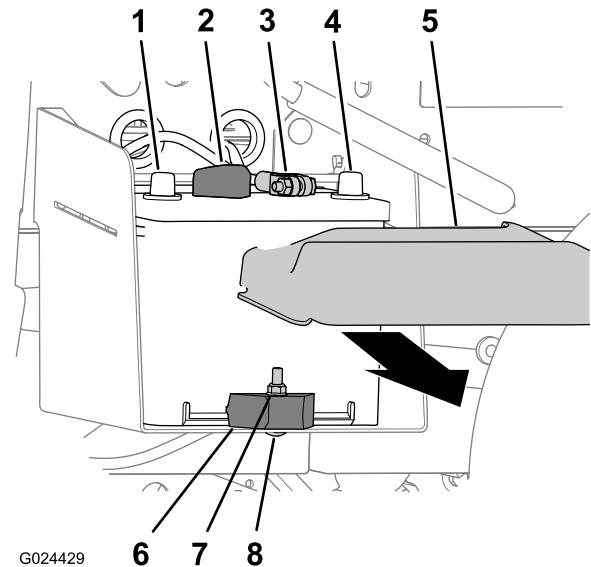

Figure 33
1. Squeeze the sides of the battery cover and remove the cover from the top of the battery (Figure 33).
2. Disconnect the negative battery cable from the terminal of the battery (Figure 33).
3. Disconnect the positive battery cable from the terminal of the battery (Figure 33).
2. Remove the locknut, carriage bolt, and battery clamp that secures the battery to the battery tray (Figure 33).
3. Remove the battery from the battery tray (Figure 33).
1. Align the battery to the battery tray of the machine (Figure 33).
- Note:** Ensure that the positive and negative posts of the battery are aligned as shown in Figure 33.
2. Secure the battery to the battery tray with the battery clamp, carriage bolt, and locknut (Figure 33).
1. Connect the positive battery cable to the terminal of the battery (Figure 33).
2. Connect the negative battery cable to the terminal of the battery (Figure 33).
3. Install the battery cover onto the top of the battery (Figure 33).